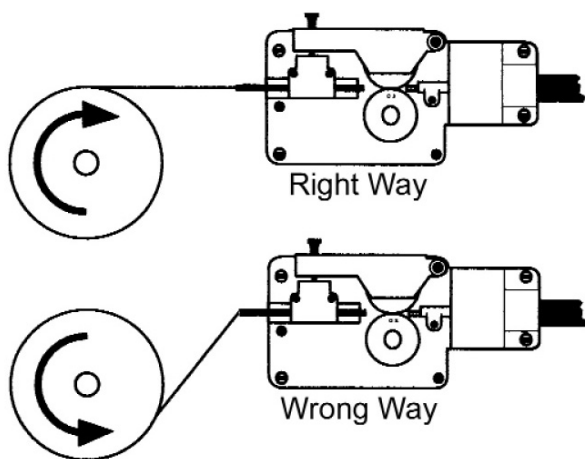

Figure 7. Wire Installation
4. Place the spool on the spindle in such a manner that when the wire comes off the spool, it will look like the top illustration in Figure 7. The welding wire should always come off the top of the spool into the drive mechanism.